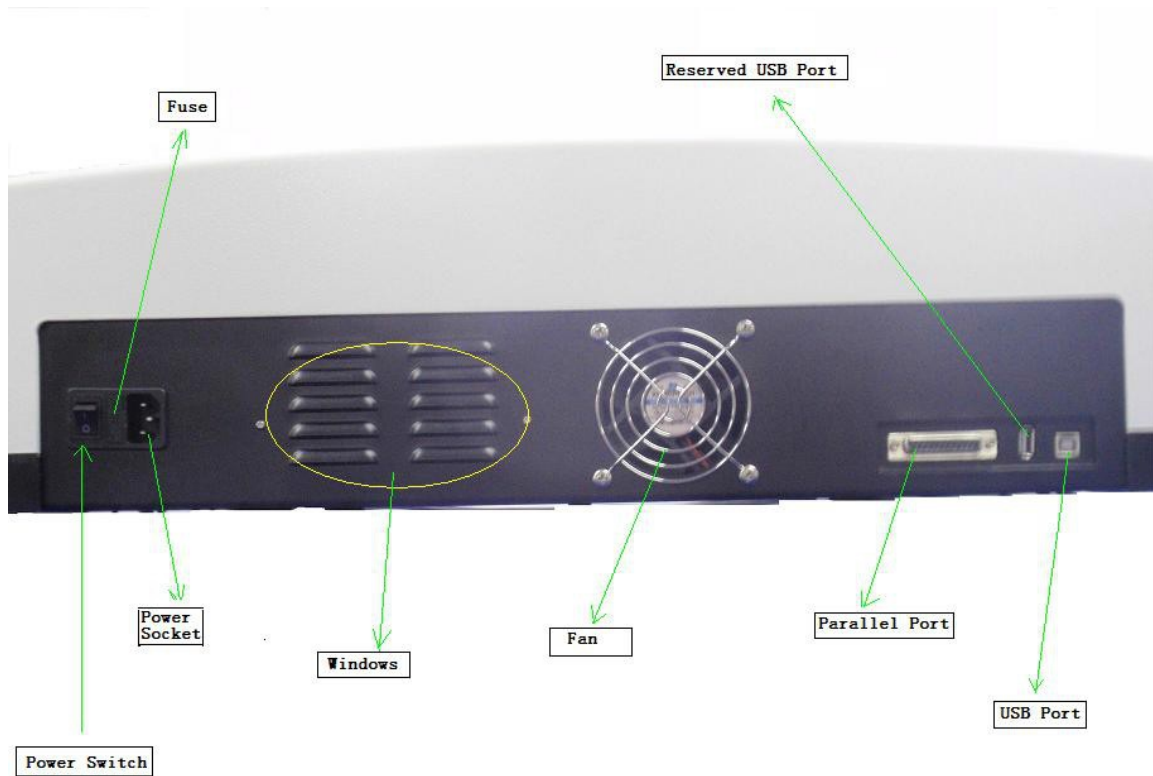

Fig 1
Turn on spectrophotometer by pressing the Power Switch (IO)(see Fig1). The instrument starts to initiate and the steps are as below: